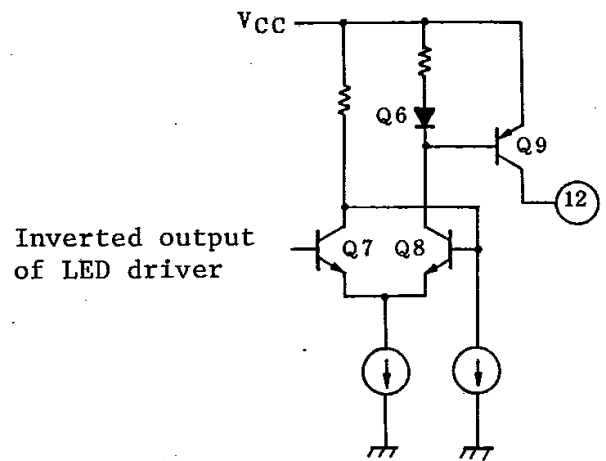

Fig.3 TERMINAL TO STOP VCO
By using (12) pin, VCO of MPX IC can be stopped. The output circuit is shown in Fig.3, and the connections to MPX ICs (TA7370P/F and TA7343AP/AF) are shown in Fig.4.